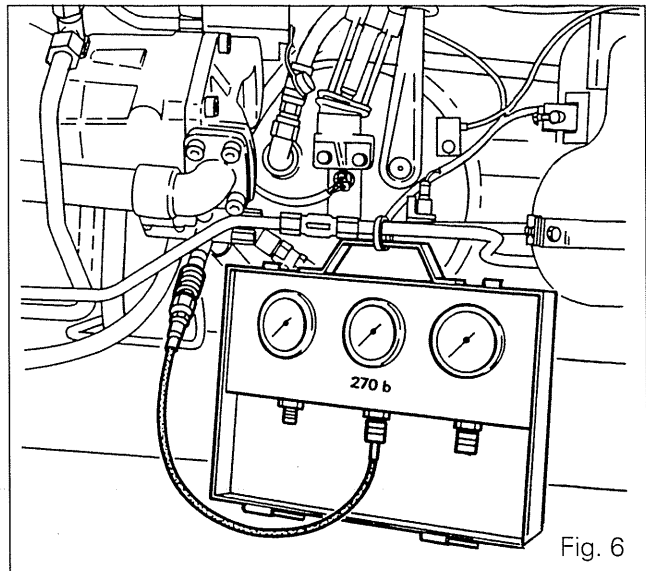

Fig. 6
- Connect a pressure gauge under the main pump (Fig. 6) to read: XLS pressure = **P8**.